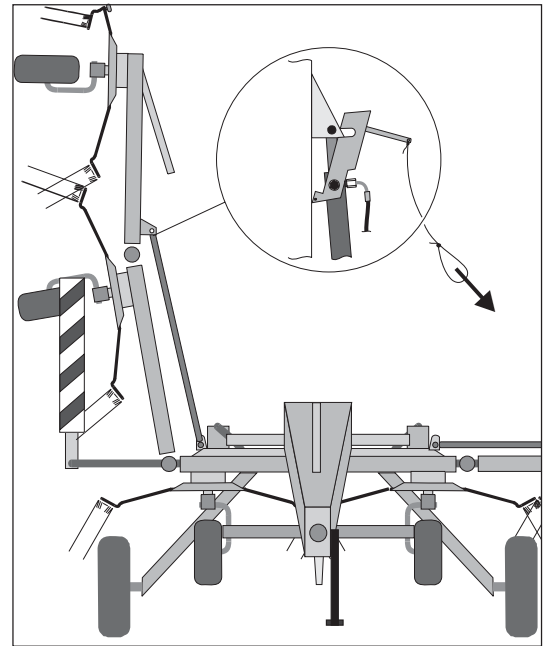

Fig. 3-8
1. Pull the rope to release the locking device of the lateral machine (fig. 3-8).